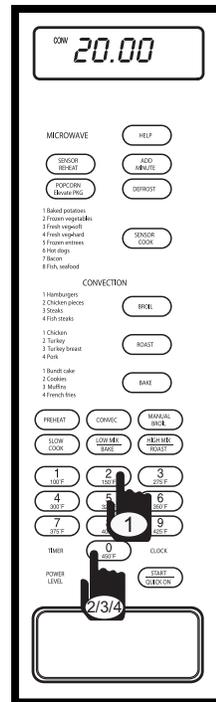

Figure 3-73.
3. Enter desired cooking time. Press the number 2 key, and number 0 key three times. "20.00 - PRESS - START" will flash on display (See Figure 3-73).